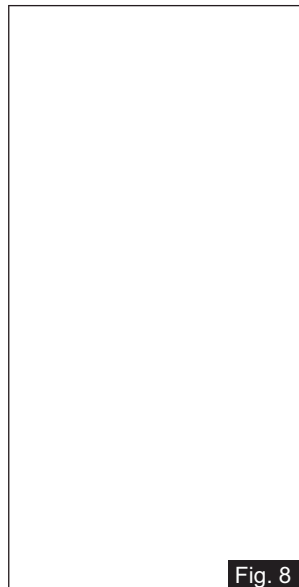

Fig. 8
4. The sensor will be more sensitive to motion across its detection path than motion directly towards it. (See Fig.8)
9. Press Fig.8 "Change image". And touch "take photo" to take a photo.
11. Press Fig.8 “Rename light” to enter a name for the light, Then press “Save”.
12. Press Fig.8 “Password” to set the password for bluetooth device, so that others need password to connect this lamp.
13. Press Fig.8 “Restore factory defaults” to restore your settings (only the light name and password) to the original conditions.